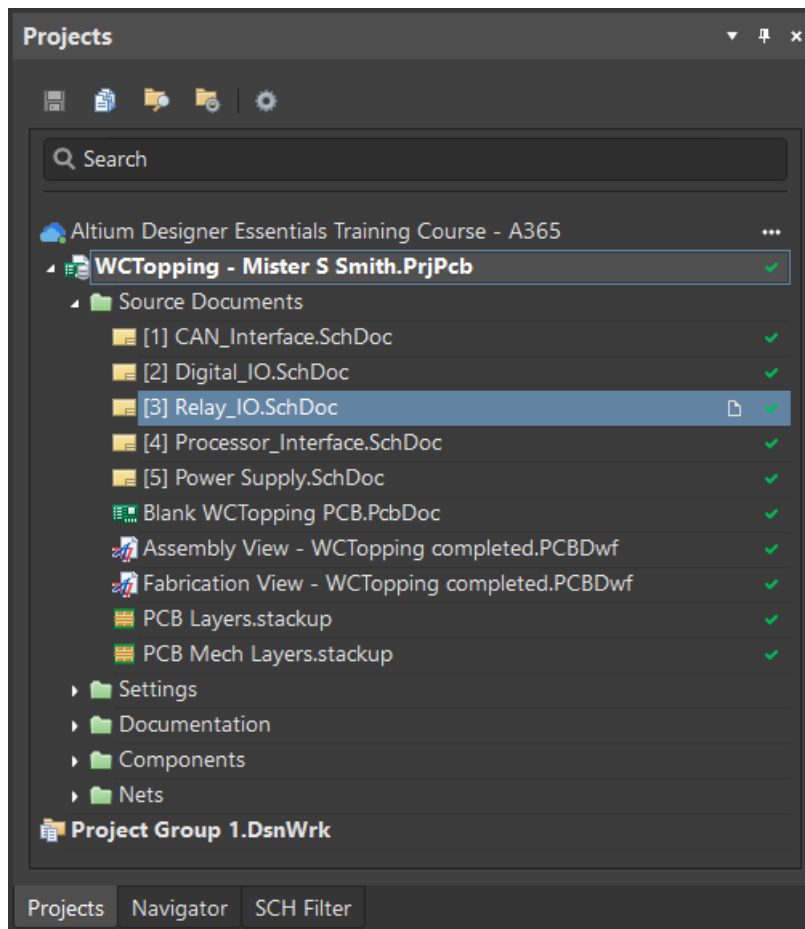

Figure 20. Renamed Project Files
43. The *Projects* panel should now look like the one in Figure 20 below. Next to all files names there is a green checkmark, indicating the local project and files are in-sync with the server.